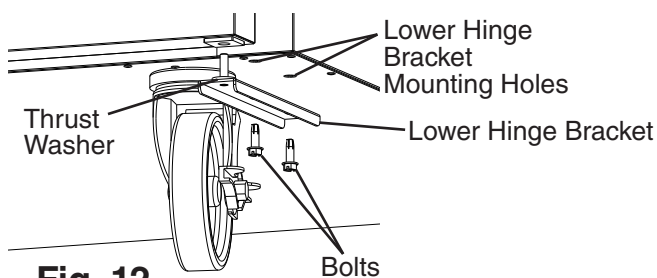

Fig. 12
- 5) Remove the lower hinge bracket. See Fig. 12. Be sure to leave the thrust washer in place.